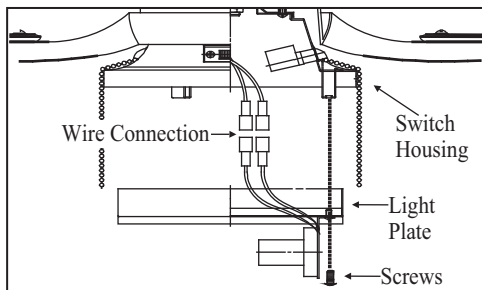

Figure 17
2. Install the light plate onto the switch housing with 3 screws provided. Be sure to tighten all screws. (Fig. 17)